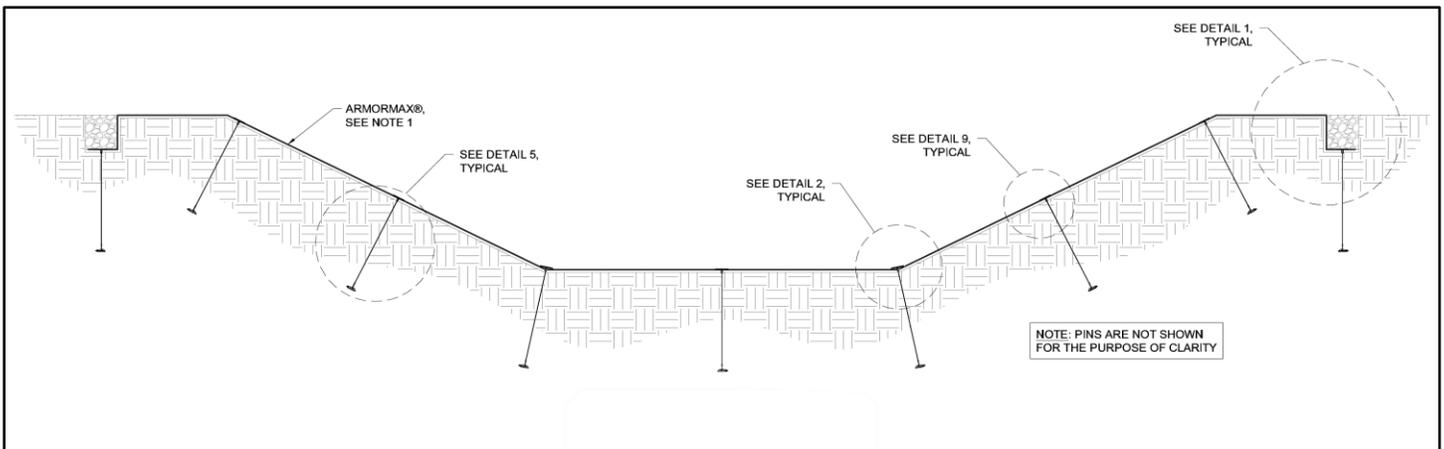

Figure 20: Completed Channel Elevation View
2. For straight sections of a channel, ARMORMAX panel lengths should be long enough to construct both COS trenches while also covering the surface of the channel being armored. (Figure 20) Panel edges should rest perpendicular to the channel center line. For best results, panels of ARMORMAX should be continuous and free from seams or roll end overlaps that are parallel to the centerline of the channel. Panel edge overlapping should follow a pattern of placing each proceeding panel's edge overlap the previous panel edge, shingling the panels in the direction of the water flow.
- Continue to work down the length of the channel by repeating steps 6 through 9 overlapping each adjacent ARMORMAX panel by 3 inches (75 mm) (Figure 20). The last ARMORMAX panel should terminate on the Terminal Channel (TC) trench with pins on 12 in (300 mm) centers in between anchors on 5 ft (1.5 m) centers.
19. At a minimum, ARMORMAX panels should be pinned entirely across the channel surface, pins and earth should be installed in the trenches, and the trenches should be backfilled and compacted at the end of each day to minimize rework in the case of a major rain event. Specific project conditions may warrant further evaluation of installation order for ease. An example elevation view (Figure 20) of a channel armored with ARMORMAX can be seen below for overall reference. Consult Propex Engineering Services at (423) 553-2450 with any questions that you may have.